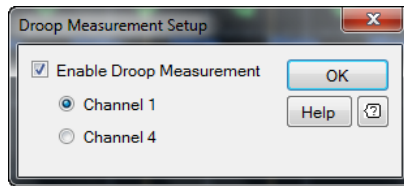

Figure 2-124 Droop measurement Setup dialog
- 2 The Droop Measurement Setup dialog is displayed as shown in Figure 2-124.